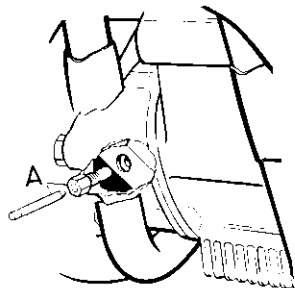

FIGURE 17.
The oil can be inserted through the spark timing plug aperture in front of the crankcase (Fig. 17) or added to the rocker box (Fig. 12), in which case ample time must be allowed for the oil to drain down to the crankcase. It will also be necessary to allow sufficient space in the oil tank to receive the additional quantity of oil.
Remove the timing plug from the front of the crankcase, Fig. 17, and slowly rotate the motor until say, the center piston is at the top of its compression stroke, when both valves will be closed. If the valves are partly open the piston is on the wrong stroke and the motor must be rotated through one complete turn. Now rotate the motor **backwards** very slowly until a small hole in the crankshaft web is in line with the hole in the crankcase. Insert the special service tool (A), Fig. 17, into the crankcase and locate the plunger in the crankshaft hole. The center piston is now correctly positioned for spark timing.